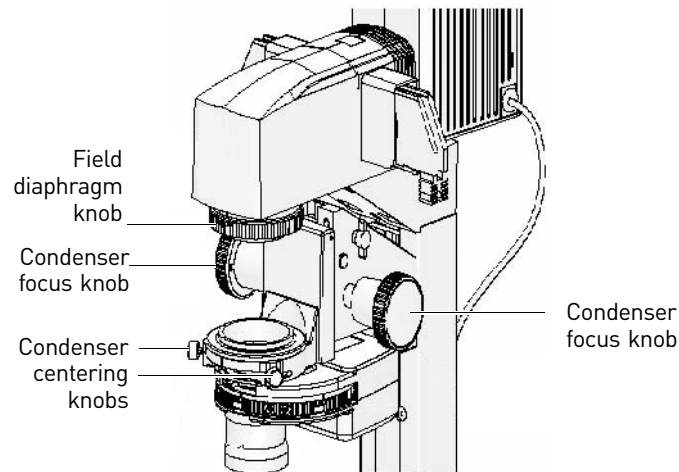

Figure 28 Phase contrast components.
Figure 28 shows the phase contrast components for a T-DH diaphragm illuminator 100W and LHS-H100P-1 120V100W lamphouse.
4. Close down the field aperture diaphragm, located in the illumination tower (see Figure 28), until the field diaphragm appears in the field of view.